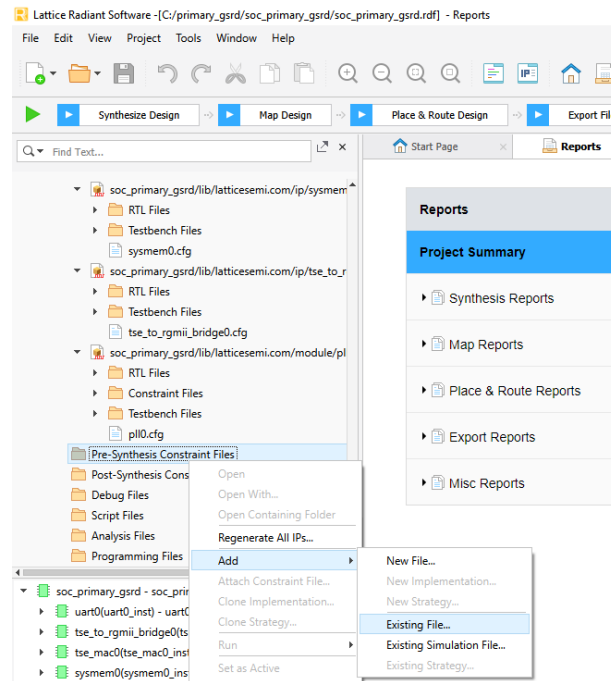

Figure 8.50. Add Existing Pre-Synthesis Constraint
- Right-click on **Pre-Synthesis Constraint Files > Add > Existing File..** as shown in Figure 8.50.